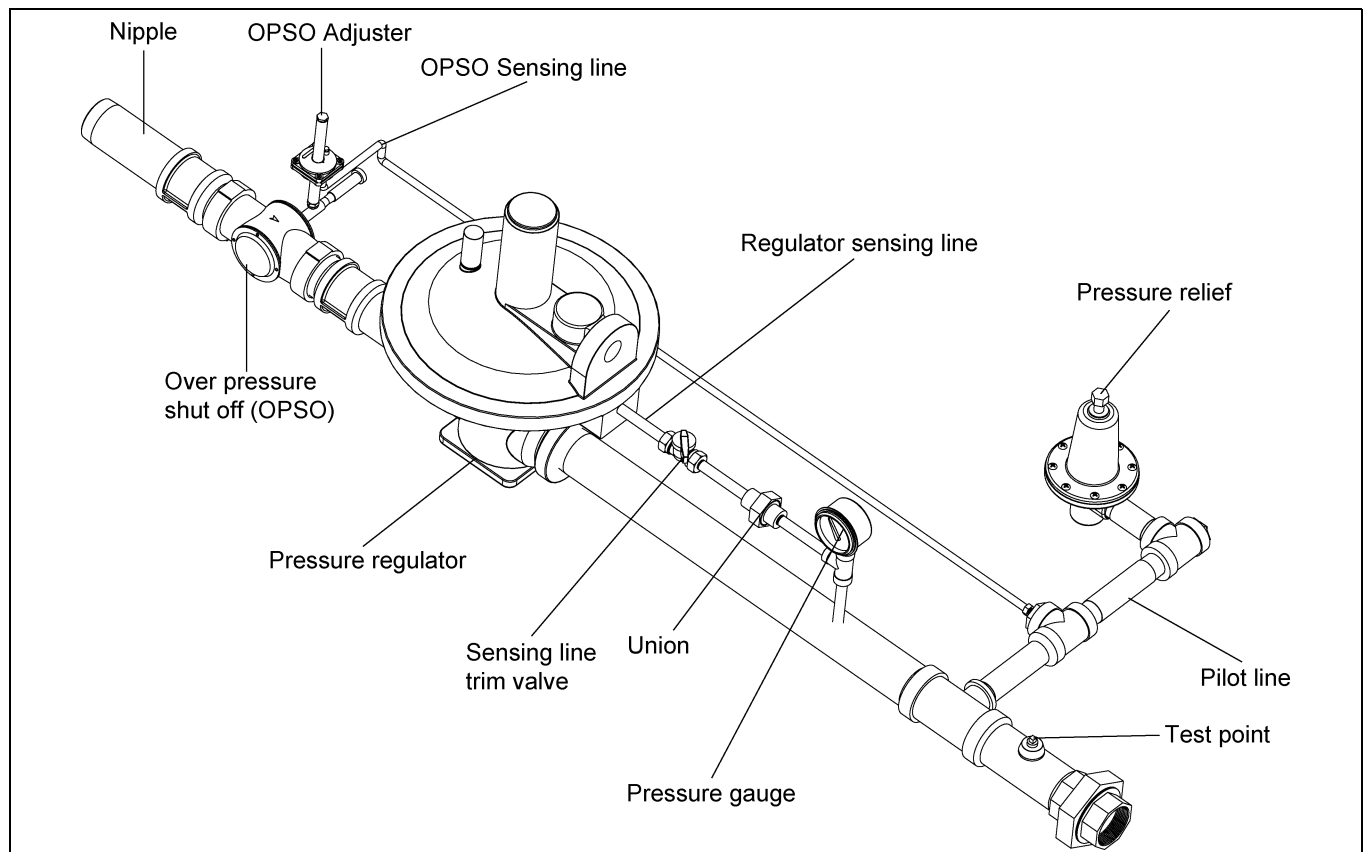

Figure 3C
2. Pressure after regulator read at sensing line gauge. (See Figure 3C on Page 17.)
4. Relief valve. (See Figure 3C on Page 17.)
5. OPSO valve. (See Figure 3C on Page 17.)